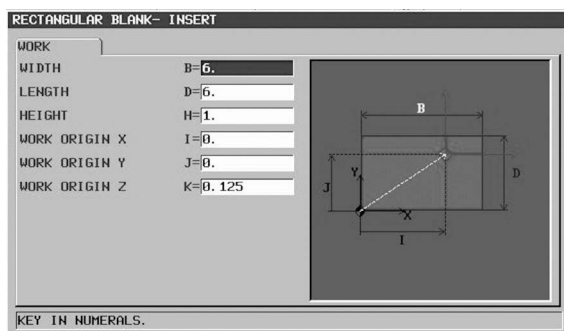

Figure 7-44 RECTANGULAR BLANK WORK Dialog
- Key in the values as shown in Figure 7-44 for the stock blank.